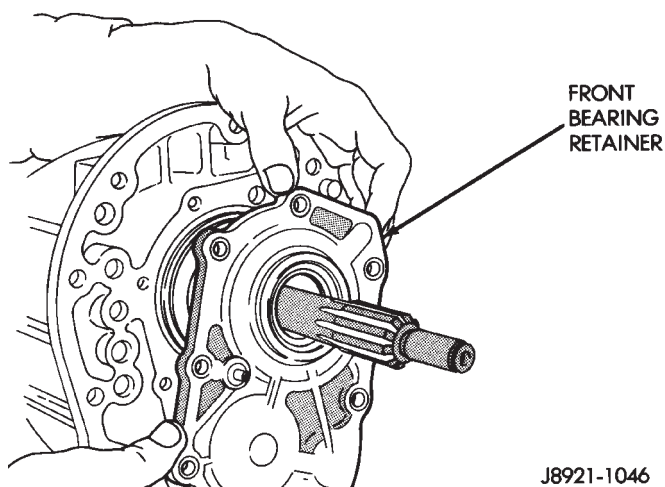

Fig. 36 Install Front Bearing Retainer
(5) Install front bearing retainer gasket to front bearing retainer.
(6) Install the front bearing retainer (Fig. 36) and tighten bolts to 17 N·m (12 ft. lbs.).